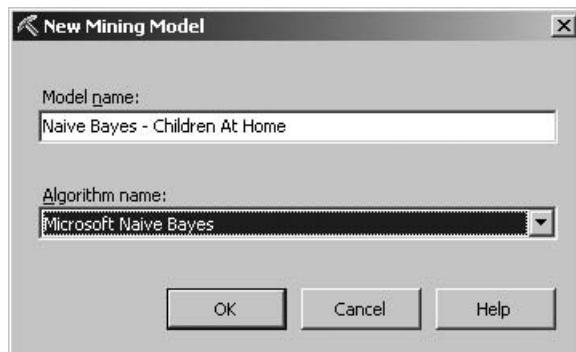

Figure 14-14 The New Mining Model dialog box
46. Select Microsoft Naïve Bayes from the Algorithm name drop-down list. The New Mining Model dialog box appears as shown in Figure 14-14.